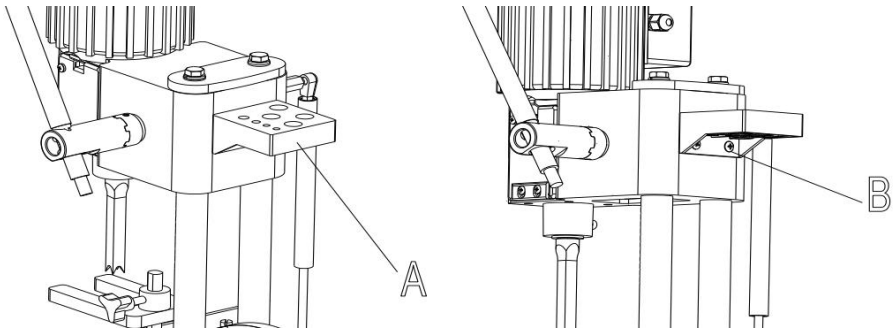

Fig8
1. Assemble tool and chisel holder (A) Fig8, to side of column using the two M6x1x25mm screws (B) and M6 flat washers as shown.